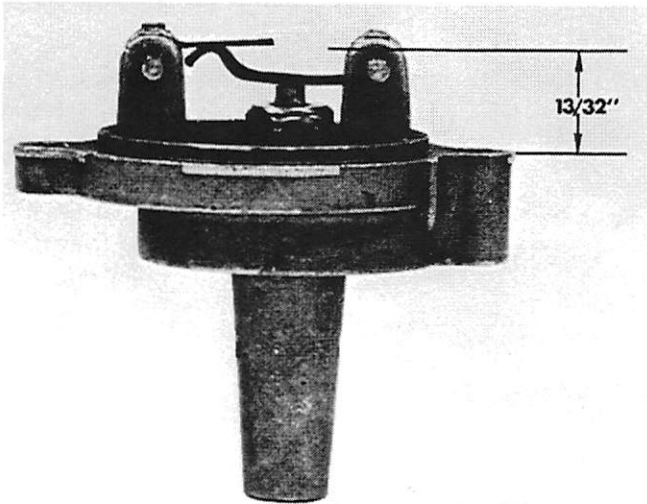

Figure 2. Gauging Primary Lever
5. Invert float bowl cover. Distance from face of shoulder to primary lever is  $13/32$ " , plus or minus  $1/64$ ". (Figure 2) Bend secondary lever as required.